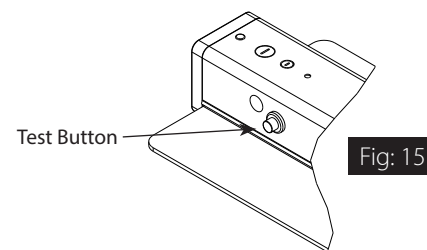

Fig: 15
9. Once the **BATTERY** has charged for at least one hour, a short duration test may be performed by pressing the test button (Fig. 15).
2. If the charging indicator light does not illuminate after pressing the **Test Button** (Fig. 15), check if battery is connected properly.